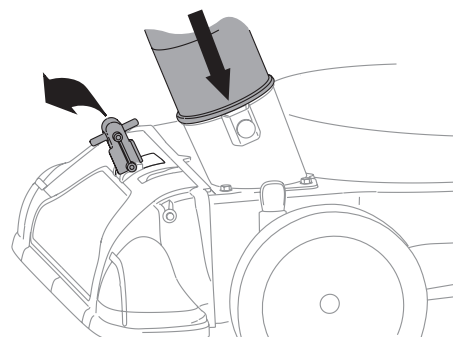

Figure 12
- Place nozzle/hose vac lever in the bottom position on the nozzle to redirect vacuum to the hose assembly. See Figure 12.
- The spring loaded pin must be in the second hole of the hose adapter to operate the hose assembly. See Figure 12.